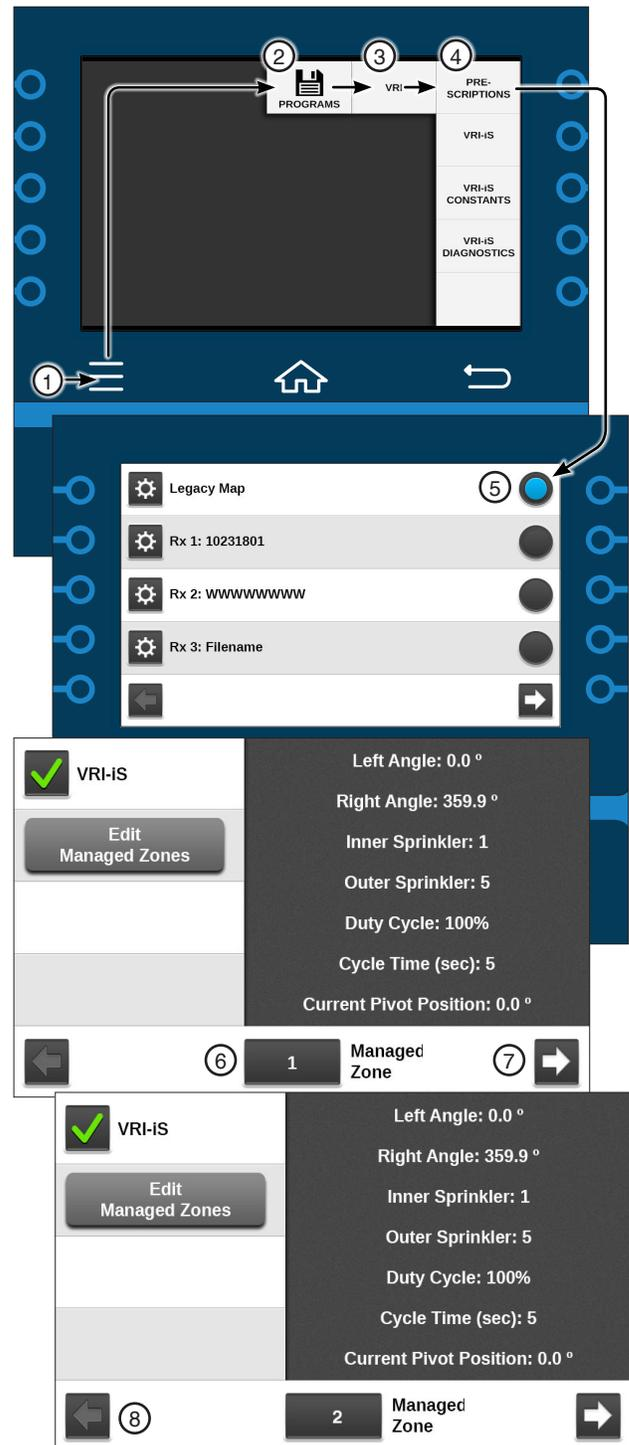

Figure 175-1 1. Menu 5. Legacy Map
1. Push **Menu**, **Programs**, **VRI** and **Prescriptions**. The VRI-iS Prescriptions screen displays. Refer to Figure 175-1.